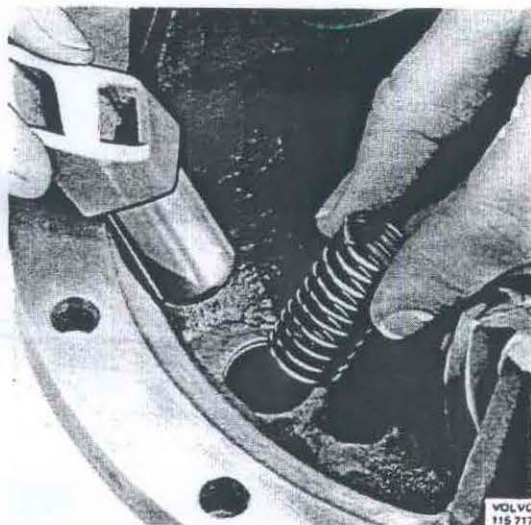

Fig. 46-40. Removing the oil scraper
- Remove the oil scraper and spring, Fig. 46-40.